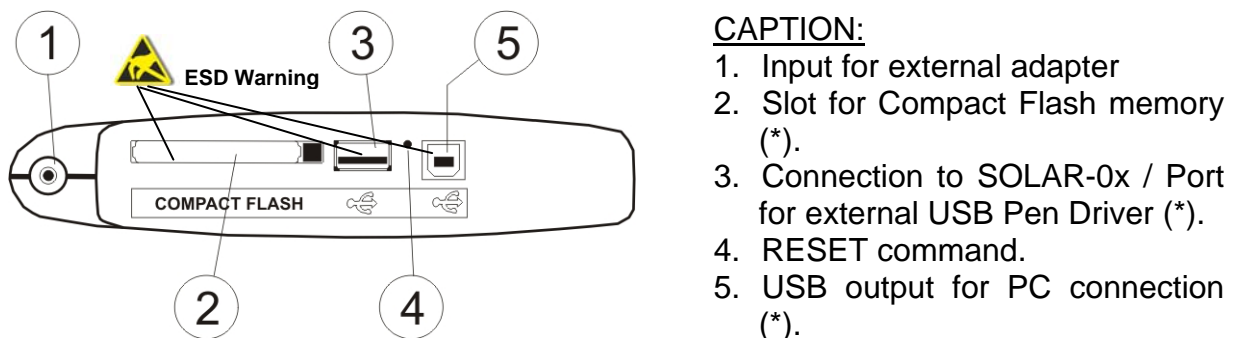
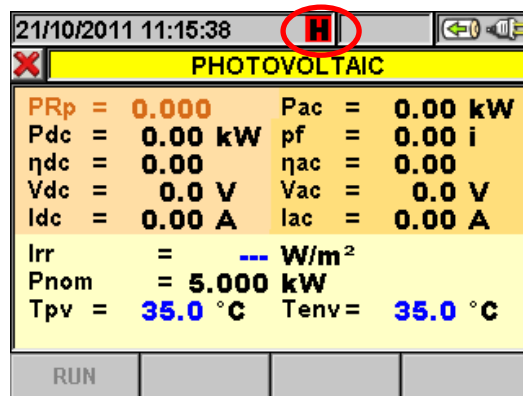

Fig. 3: Description of meter's output connectors
Fig. 4: HOLD function active at display
- ✓ **HOLD:** to block the value updating in all real time screens and also during a recording operation. "H" symbol is shown at display by any pressing of key as for Fig. 4:
1. Using the PT400 pointer pen or another object softly pressing the internal part of the little hole which is present on the lateral side of meter (see Fig. 3 – Fig. 4). The meter goes automatically off.